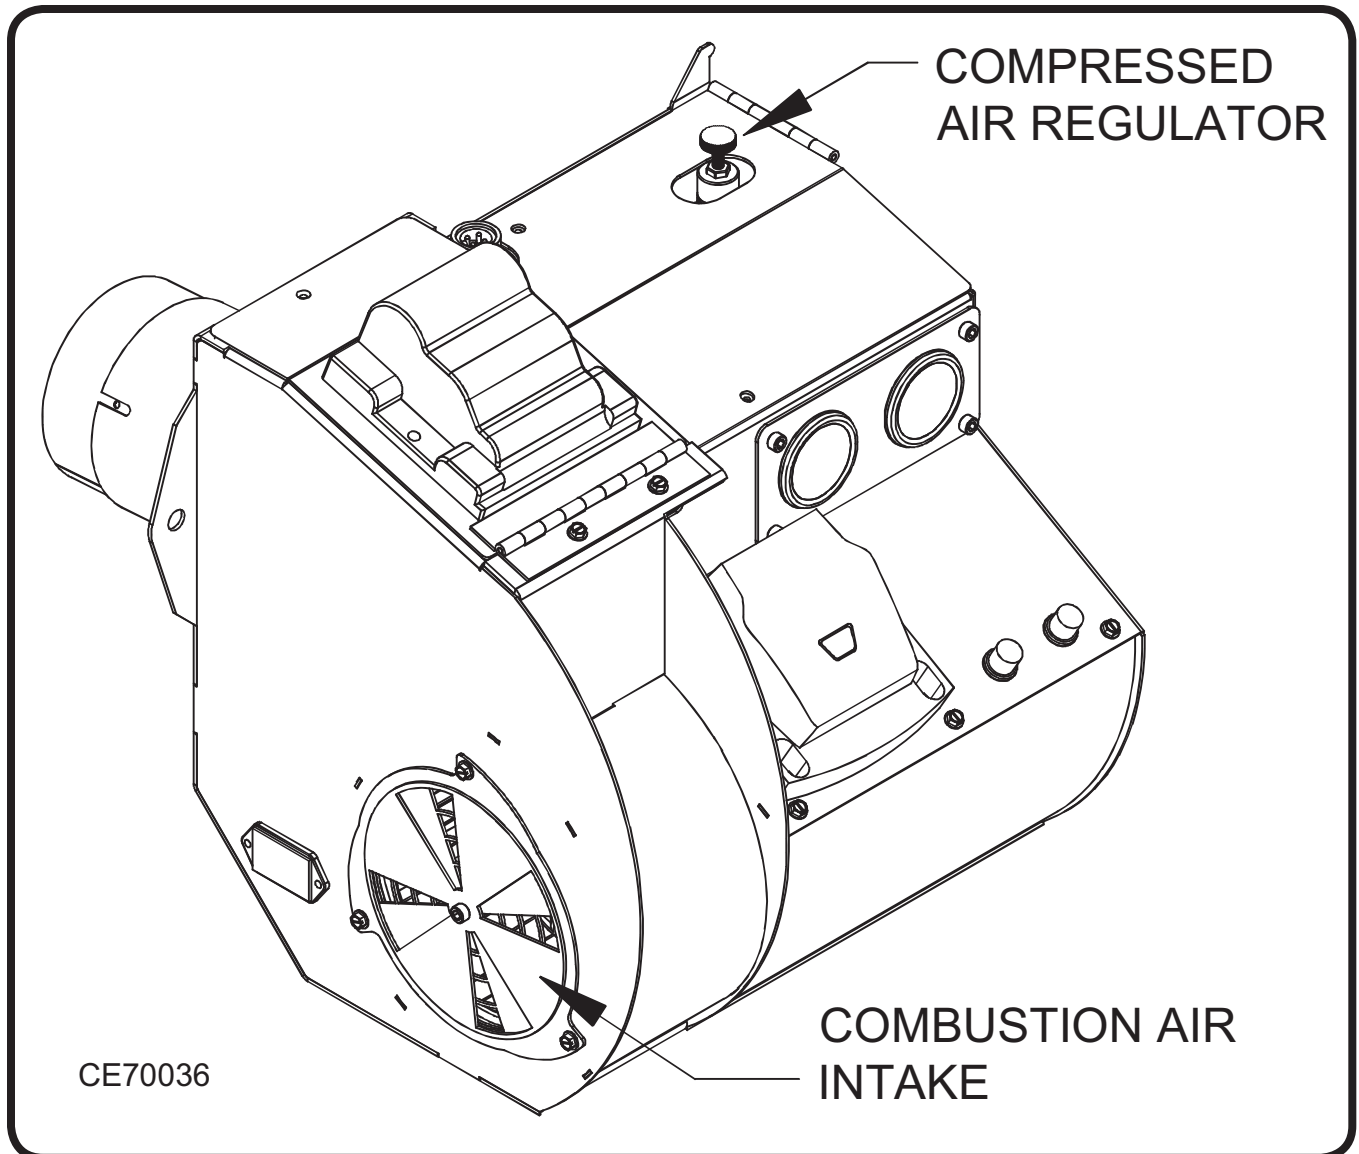

Figure 25: Flame Adjustment
- (1) Once a flame is established adjust the combustion air intake and the compressed air pressure to maintain a healthy flame (refer to Figure 25).
- (2) The air intake plate on the left side of the burner can be adjusted to increase or decrease the pie shaped opening sizes to let in more or less combustion air.
- (3) The compressed air pressure can be adjusted by turning the knob on the air regulator.
- (4) Visually inspect the flame to ensure proper settings.
- (5) The flame should go 1/2 to 3/4 of the way down the combustion chamber, and should not impinge on any surface of the combustion chamber.